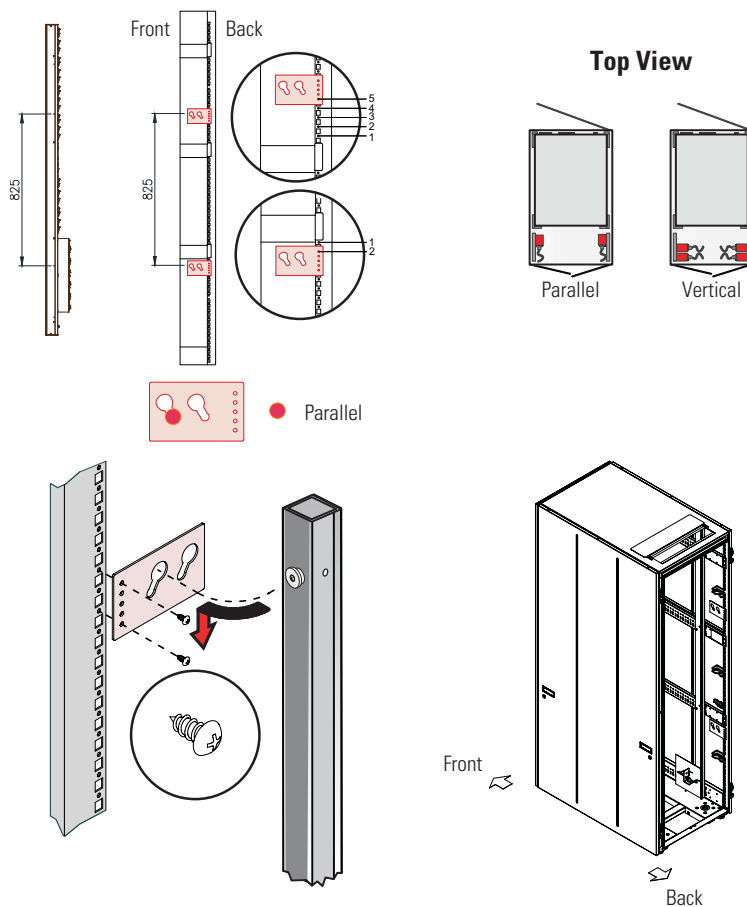

Figure 13. Lenovo Rack 9307 Bracket Installation
2. Position the bracket as shown in Figure 13.